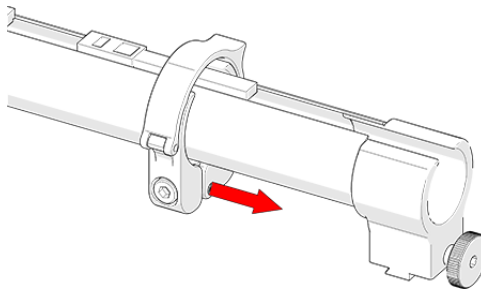

Figure 3-57 Slide clamp onto mount
4. Slide the clamp over the tube and zipper tube dovetail mount pinching the tube in between (see Figure 3-57 on page 76).